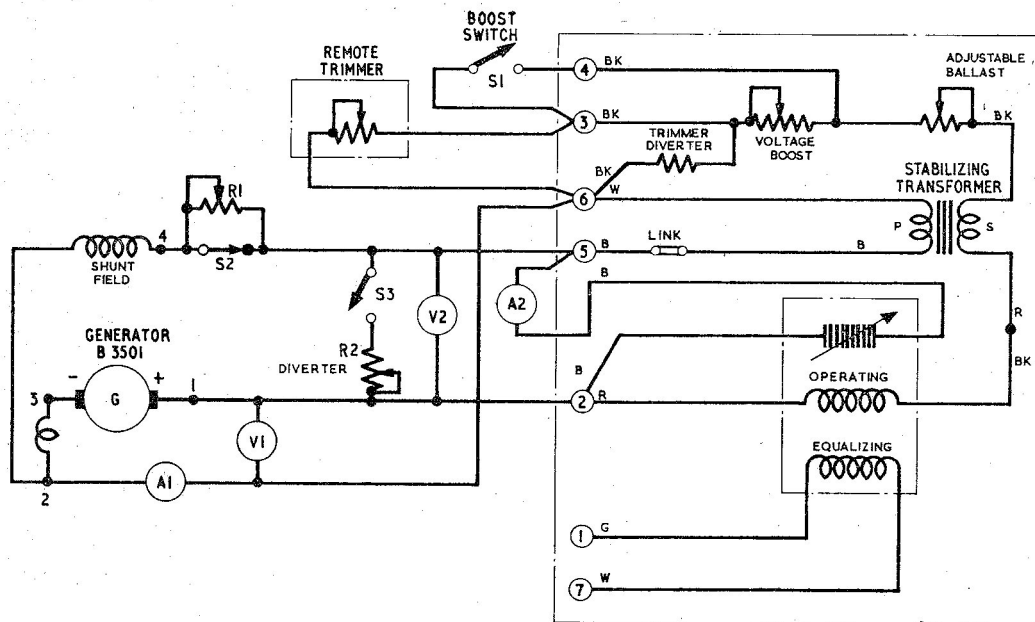

Fig. 1. Test circuit diagram
3. With the regulator Type 70/60907 and test equipment connected as shown in the circuit diagram, fig. 1. This diagram shows a regulator connected to a generator of the Rotax Type B3500 series, but if this generator is not available any generator which is used with this regulator may be substituted. The link in the stabilizing transformer primary circuit should be removed for all tests except stability tests, para. 8.